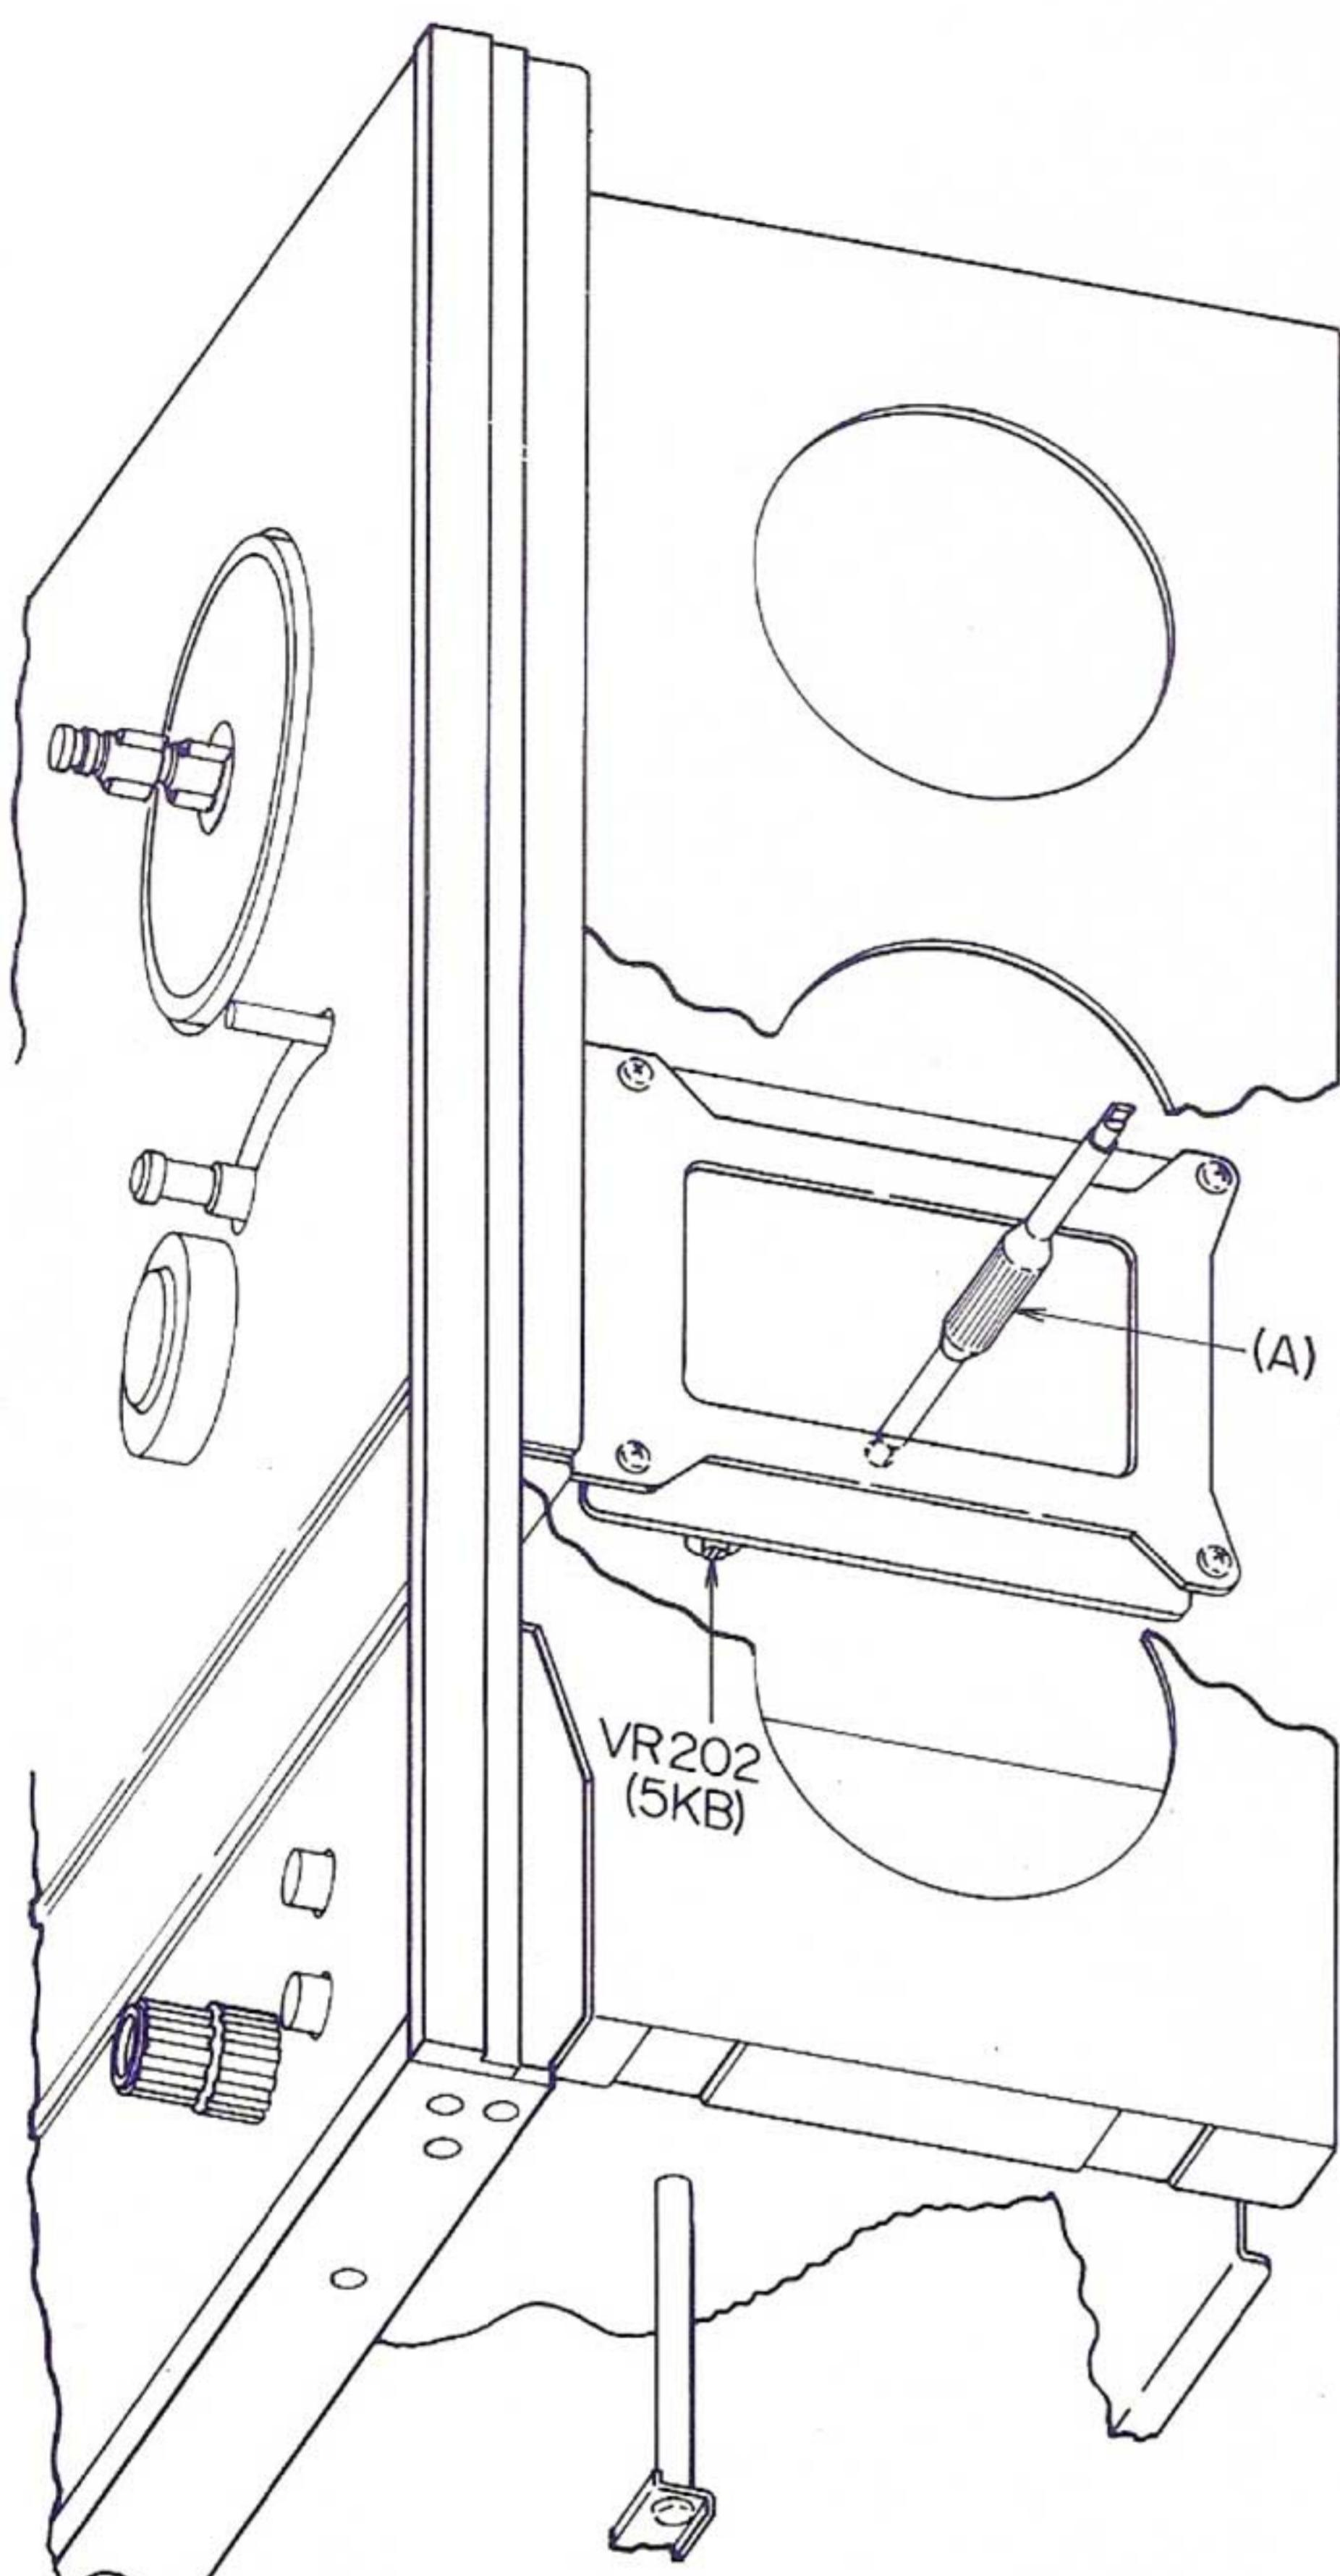

Fig. 6-4
- 2) Adjust L 201 in transformer core so that the Frequency Counter indication is 500 Hz ($\pm 1\%$) (See Fig. 6-4, point A).